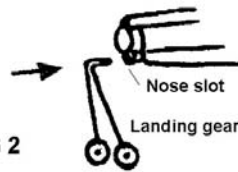

FIG 2
3. Insert landing gear wire onto nose slot. (FIG 2).